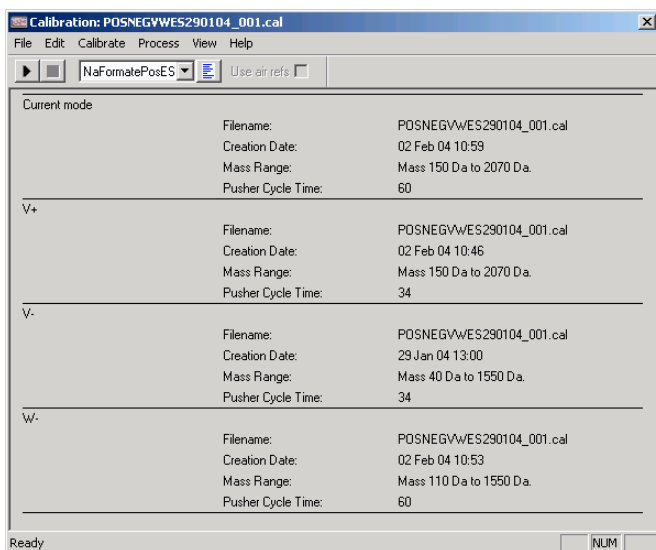

Figure 3-12 Calibration Window Showing Saved Calibration Details
**Note:** Each calibration for each mode is appended to the same file. Figure 3-12 shows calibration details from V+, V-, W- and the current mode W+.